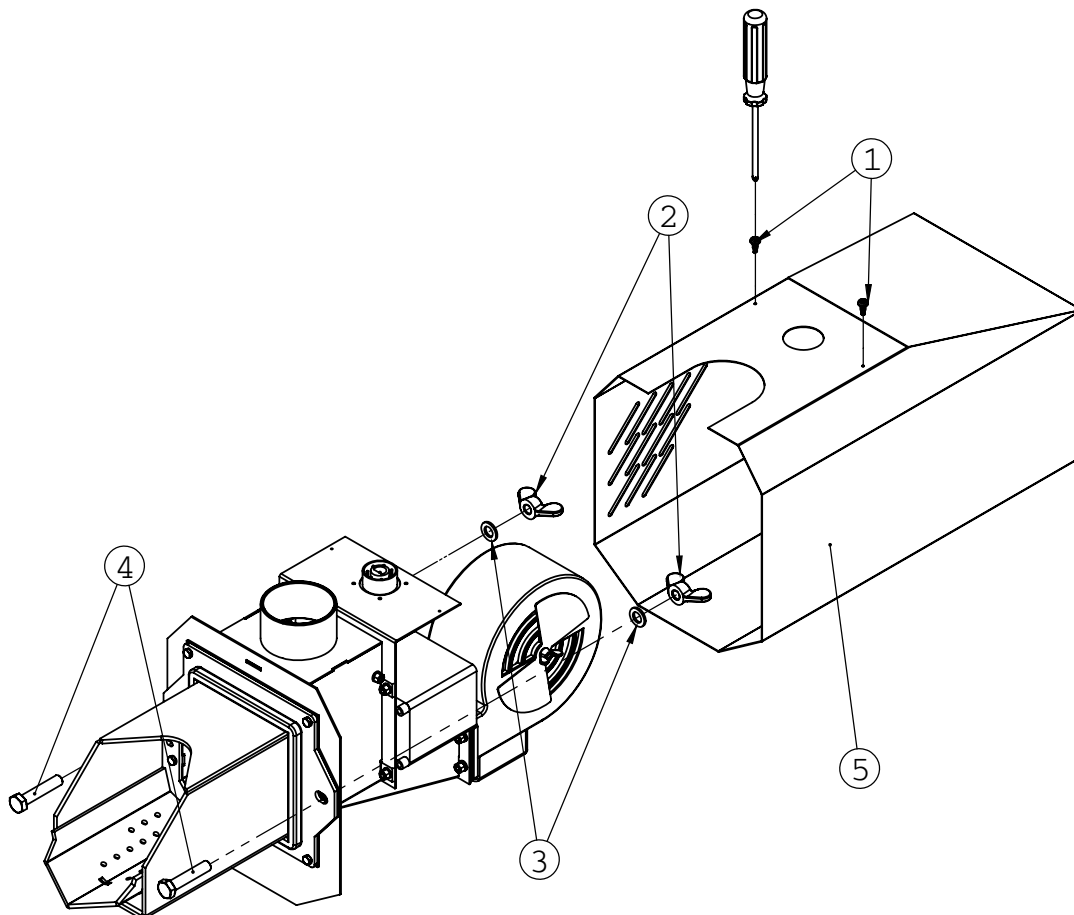
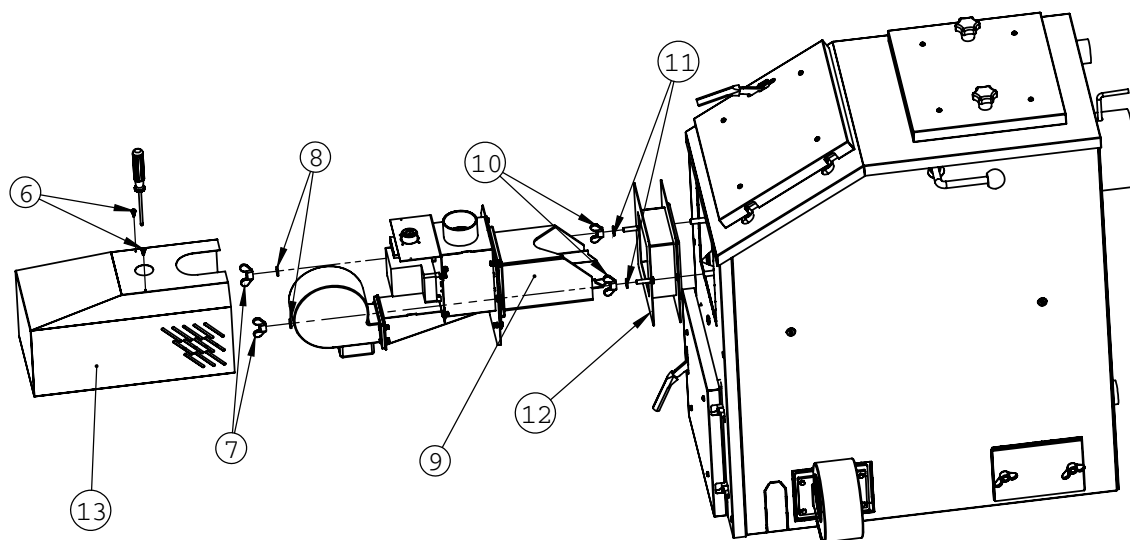
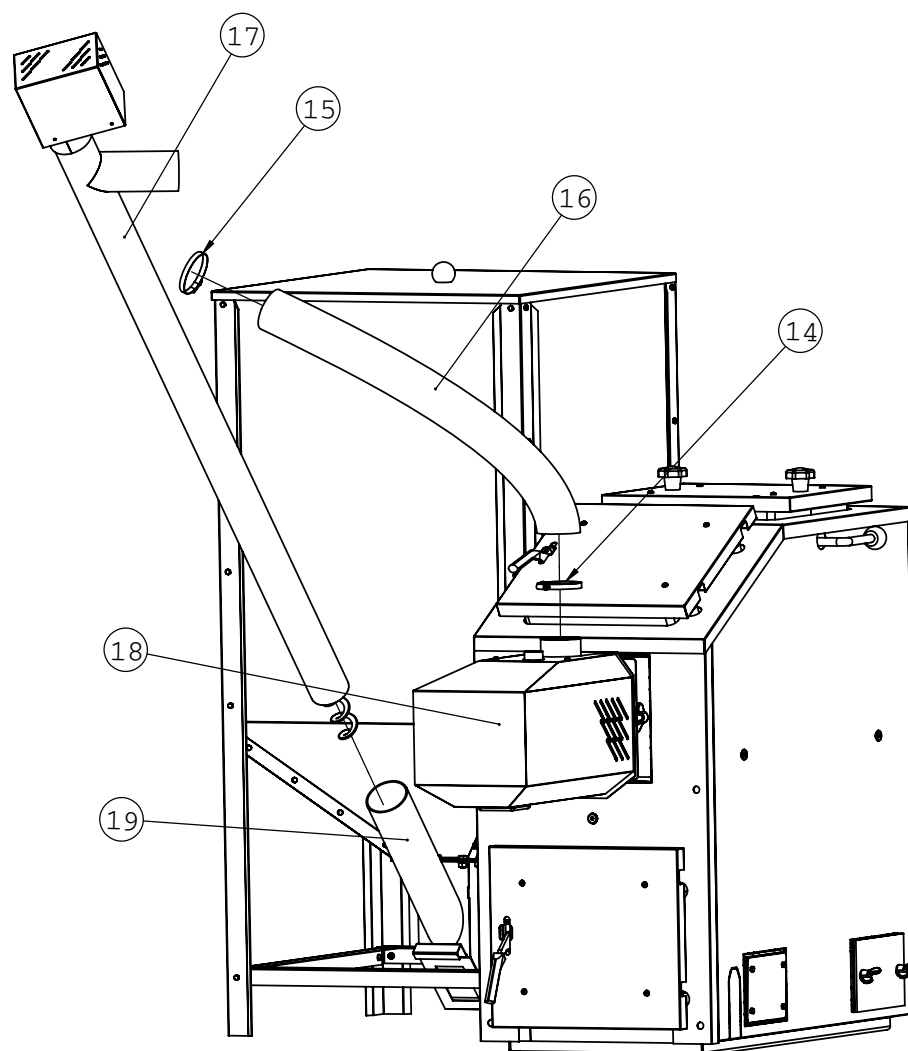

Fig. 12 Disassembly of Platinum Bio burner cover
Fig. 13 Installation of Platinum Bio burner.
Fig. 14 Feeder installation.
1. Unscrew the two screws fastening the burner cover (Fig.12)
2. Remove the burner cover (5), unscrew the two wing nuts (2) and remove the two screws (4) with two washers (3).
3. Install the burner (9) in the adapter (12) screwing it with two wing nuts (10) with washers (11) (Fig.13). The adapter (12) with the burner (9) should be mounted in the boiler with two wing nuts (7) with washers (8).
4. Mount the burner cover (13) screwing it with screws (6)
5. Insert the feeder tube (17) into the fixing tube (19) (Fig. 14.).
6. Fit the flexible hose (16) to the feeder pipe (17) and secure with a band clip (15)
7. Fit the flexible hose (16) to burner pipe (18) and secure with a band clip (14).